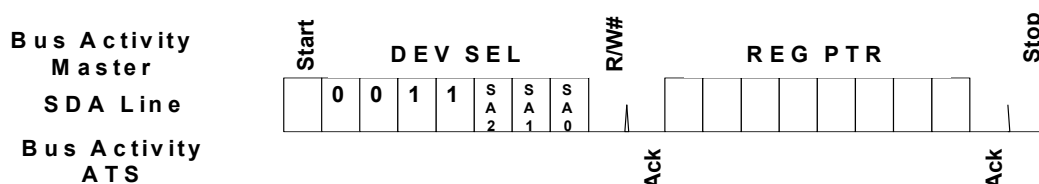
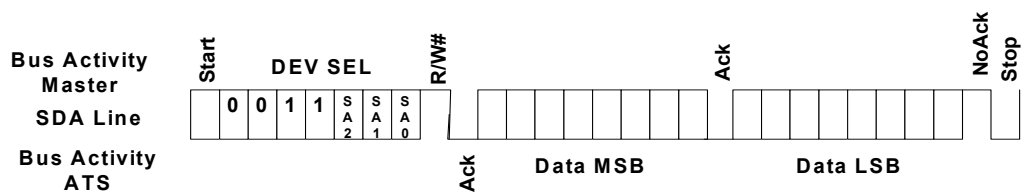
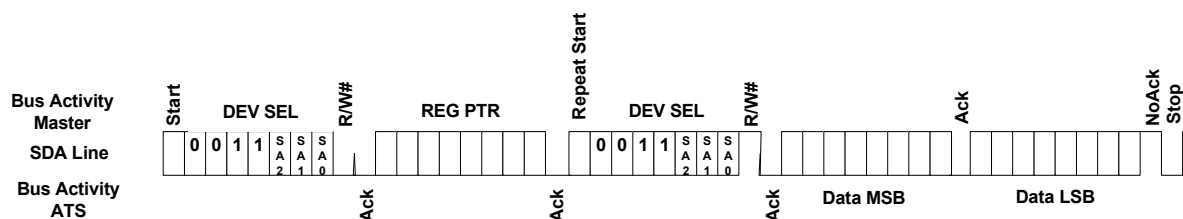

Figure 11 — I2C Write to Pointer Register
Figure 12 — I²C Preset Pointer Register Word Read
Figure 13 — I²C Pointer Write Register Word Read
2. The pointer register is loaded with the correct register address, and the data is read. The sequence to preset the pointer register is shown in Figure 11, and the preset pointer read is shown in Figure 12. If it is desired to read random address each cycle, the complete Pointer Write, Word Read sequence is shown in Figure 13.